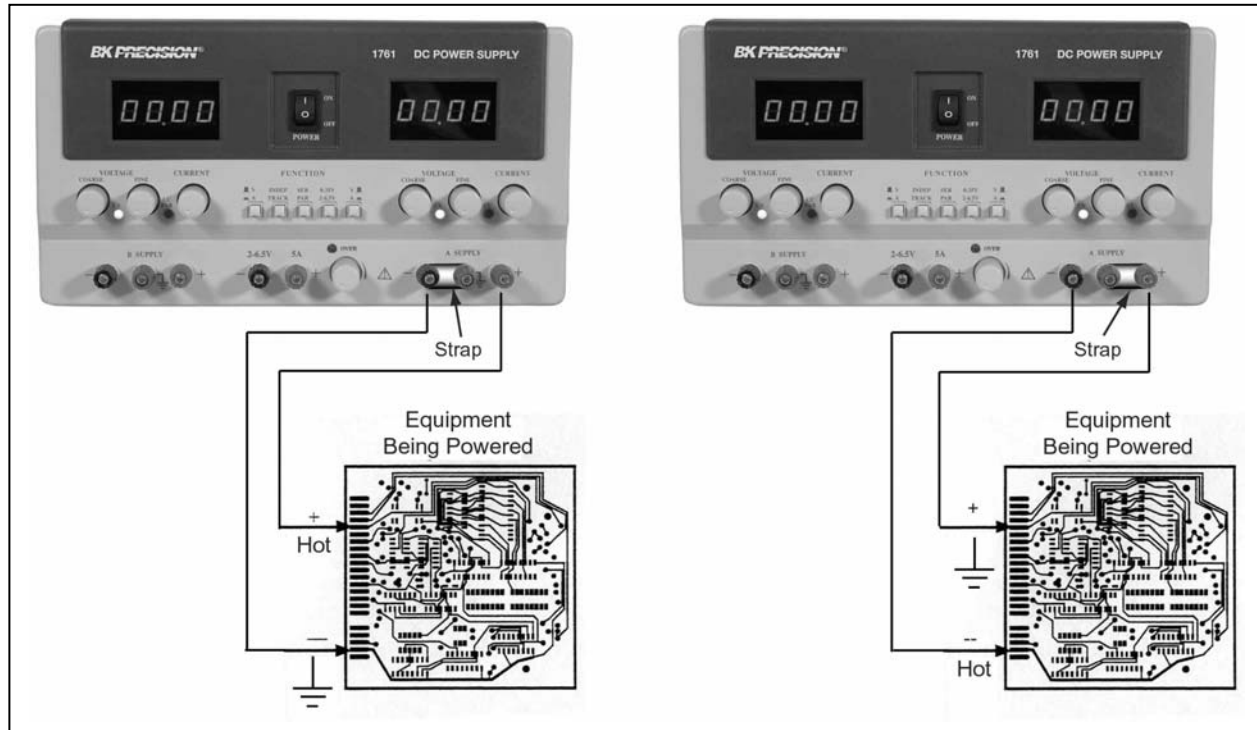

Fig. 3. Independent Operation Grounding Possibilities.
5. Fig. 3 illustrates the grounding possibilities when used in the **INDEP**endent mode.